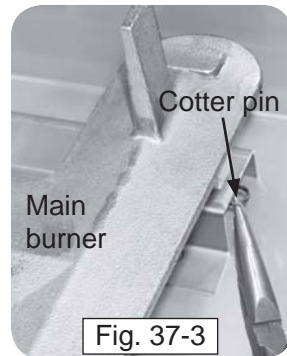

Fig. 37-3
3. Remove the cotter pin from the left or right rear burner anchoring peg by pulling it straight out of the cotter pin hole using fingers or needle-nose pliers (Fig. 37-3).